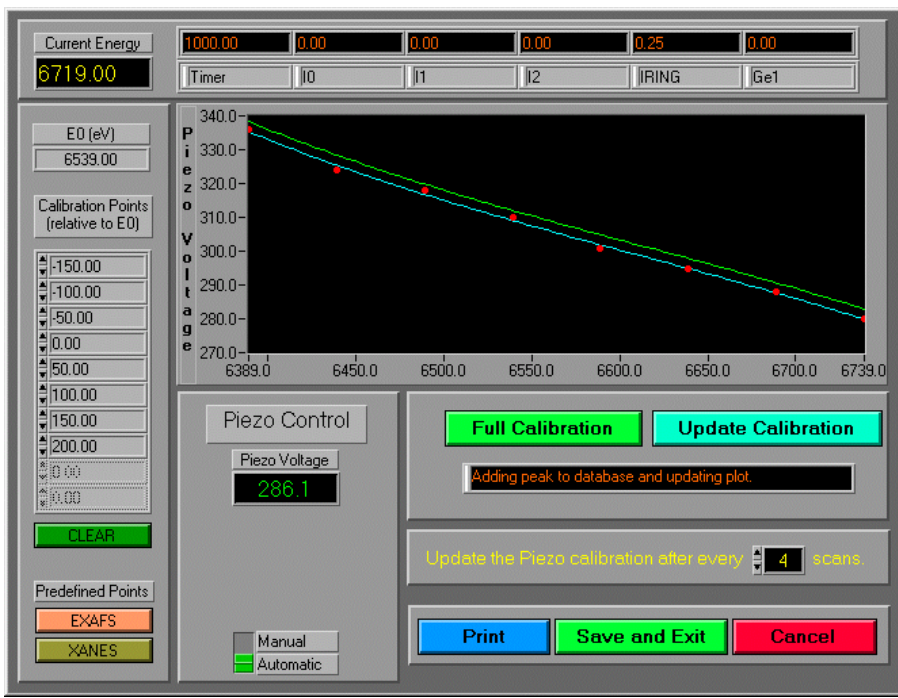

Fig. 6
1. Click the Calibrate Piezo button. **Do not click Calibrate Mono button!** A new window appears (Fig. 6).
4. Click Full calibration button. Observe I₀ while the calibration is taking place. The calibration is supposed to maximize I₀ at each of the energies used. Generally, the shape of the Piezo curve vs. Energy looks similar to that in Fig. 6, except at the end of the useful range of Si(111) crystal (above 11 keV).